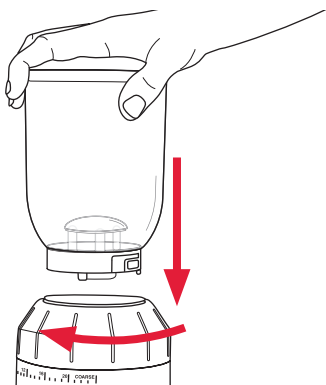

Figure 1
2. To attach the bean hopper, position bean hopper onto the top of the motor base, push down and turn clockwise. See Figure 1.